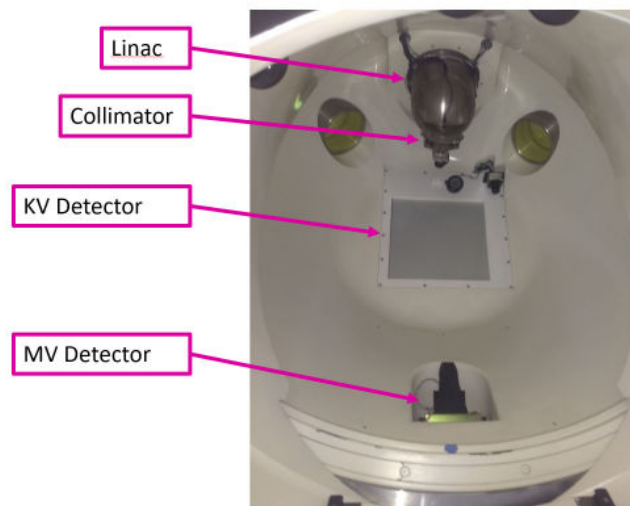

Figure 1.1.3. The inside of the ZAP-X system.
Figure 1.1.3 shows the inside of the system as viewed from the table entrance.
- **Linac:** Inside the system is the linear accelerator which delivers the treatment beam (Figure 1.1.3 shows the Linac enclosure).